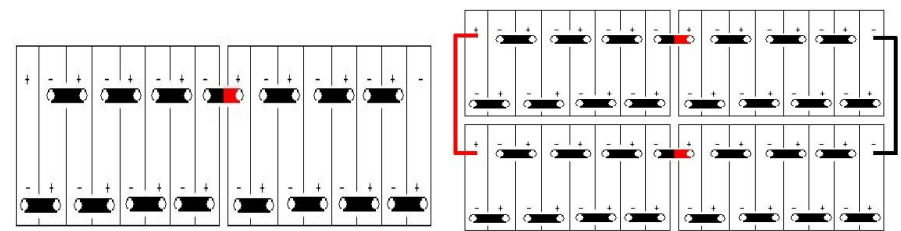

Figure 2: Connection of one row batteries (2KWH) Connection of two rows of batteries (4KWH)
10. Wiring: ①Pull out the protection cap of the batter terminals (positive and negative) between two battery packs, use red/black short jumper cable to put them in series as shown in Figure 2. If it is 4KWH model, connect two strings of the 2KWH battery packs in parallel (positive to positive, negative to negative terminals) ②Connect the DC/DC converter(11) to the end terminals of the battery pack, red to positive and black for negative. ③Connect the white connectors to the balancers. ④Connect the gray Anderson connector to the charger.